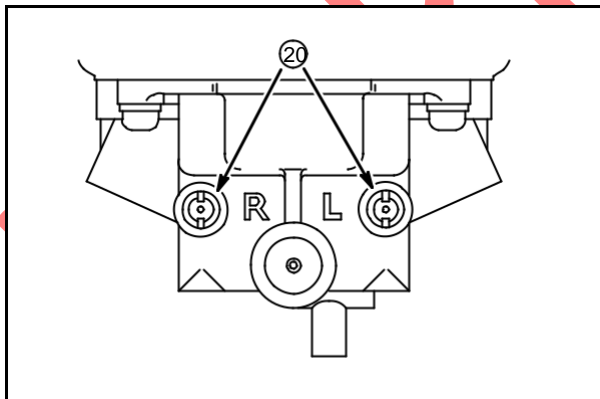

Fig. 73
Install fixed main jets (20), **Fig. 73**, plugs and washers.